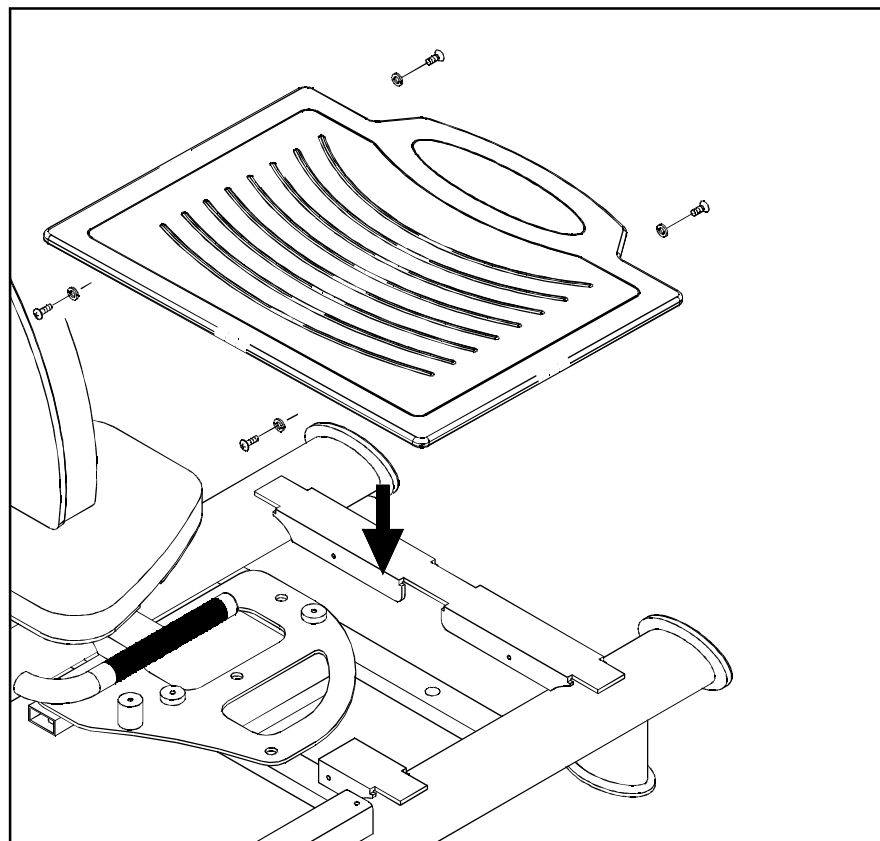

Fig.4
4. Assemble the foot mat as shown in Fig.4 and faster 4 screws by hex key wrench.